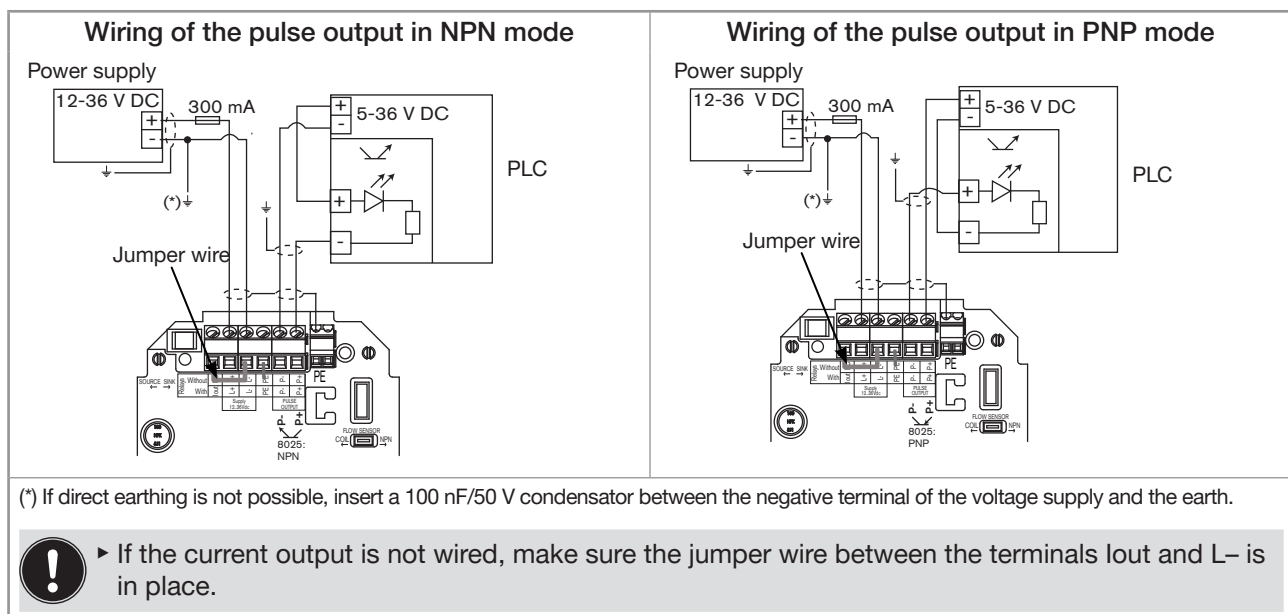

Fig. 43: Wiring in NPN or PNP mode, of the pulse output of a 12...36 V DC version, with relays, with cable glands
- Wire the pulse output according to Fig. 43.